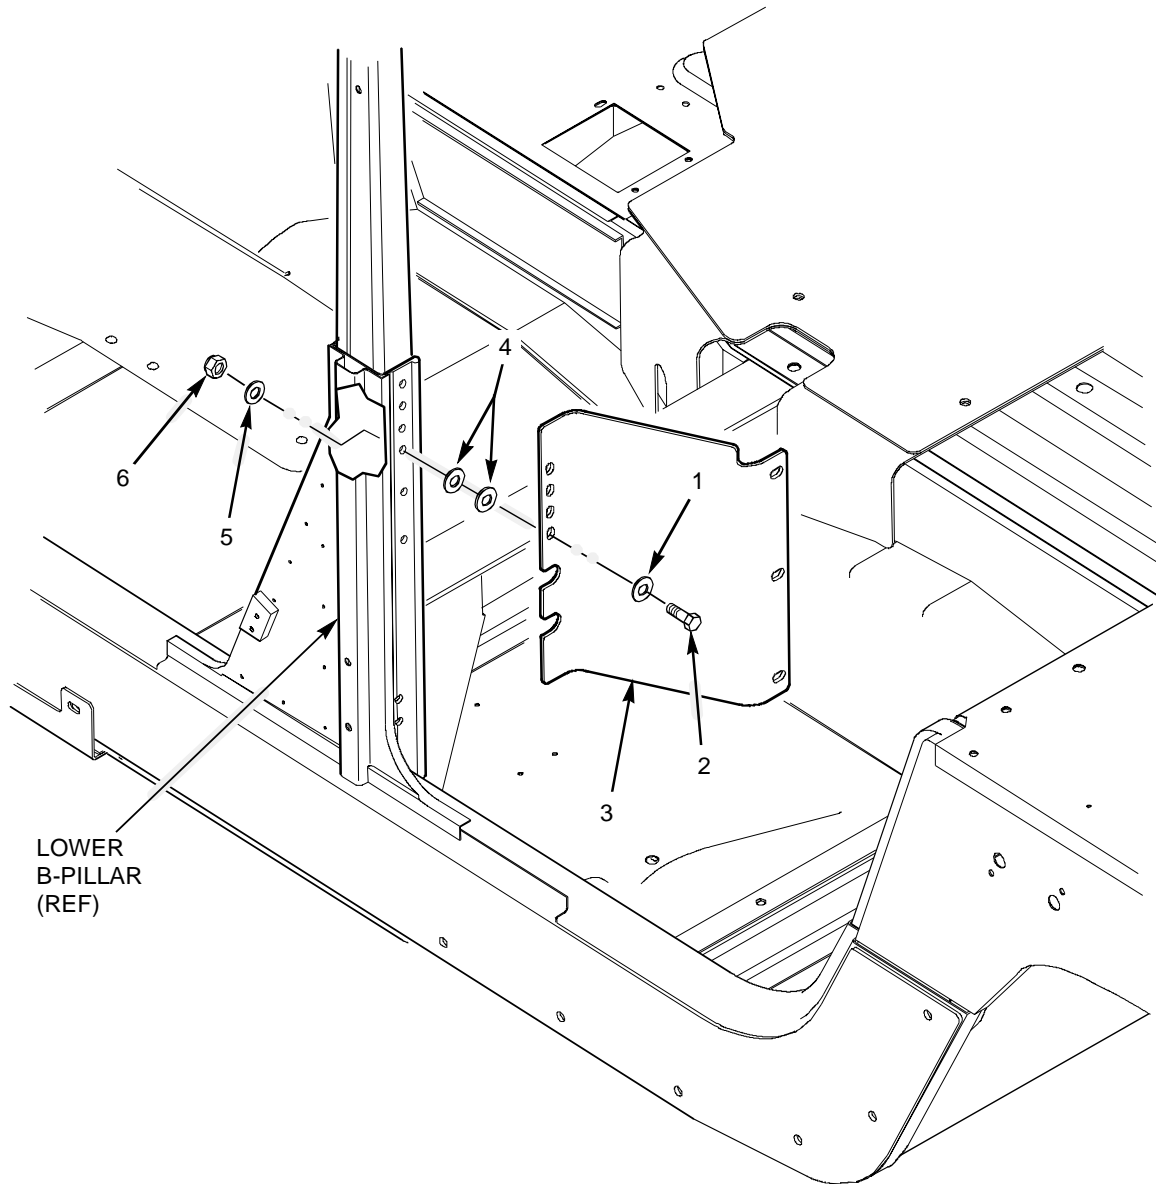

Figure 2-21. B-Partition Mount Bracket Removal (2 Door Only)
- 4) Remove B-partition mount brackets as follows (see figure 2-21):
- a. Remove four capscrews (2), four washers (1), eight washers (4), four washers (5) and four locking nuts (6) securing B-partition mount bracket (3). Remove B-partition mount bracket (3). Discard locking nuts (6).